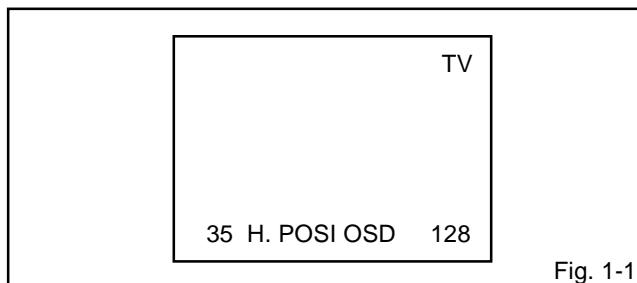

Fig. 1-1
1. In the condition of NO indication on the screen. Press the VOL. DOWN button on the set and the Channel button (**9**) on the remote control for more than 2 seconds to appear the adjustment mode on the screen as shown in **Fig. 1-1**.
4. Activate the adjustment mode display of **Fig. 1-1** and press the channel button (**01**) on the remote control to select "RF AGC".
3. Activate the adjustment mode display of **Fig. 1-1** and press the channel button (**00**) on the remote control to select "CUT OFF".
4. Activate the adjustment mode display of **Fig. 1-1** and press the channel button (**04**) on the remote control to select "R CUT OFF".
3. Activate the adjustment mode display of **Fig. 1-1** and press the channel button **(08)** on the remote control to select "H POSI(50)".
7. Activate the adjustment mode display of **Fig. 1-1** and press the channel button **(39)** on the remote control to select "H POSI(60)".
3. Activate the adjustment mode display of **Fig. 1-1** and press the channel button **(11)** on the remote control to select "V SIZE(50)".
7. Activate the adjustment mode display of **Fig. 1-1** and press the channel button **(12)** on the remote control to select "V SIZE(60)".
4. Activate the adjustment mode display of **Fig. 1-1** and press the channel button **(17)** on the remote control to select "BRIGHT CENT".
2. Activate the adjustment mode display of **Fig. 1-1** and press the channel button **(22)** on the remote control to select "CONT CENT".
4. Activate the adjustment mode display of **Fig. 1-1** and press the channel button **(25)** on the remote control to select "COLOR CENT".